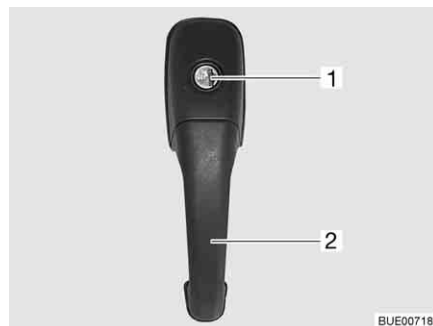

Fig. 43 Door lock of conversion door, outside
- Insert the key into locking cylinder (Fig. 43,1) and turn until the door lock is unlatched.
- Pull on the handle (Fig. 43,2). The door is open.
- Insert the key into locking cylinder (Fig. 43,1) and turn until the door lock is engaged.